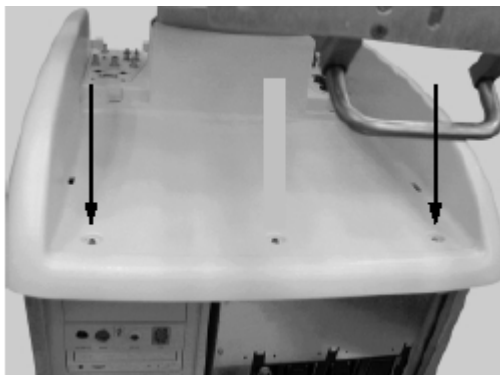

Figure 8-170 Top Cover Screws
- 8.) Remove the *right* and *left* screws located at the front of the lower section top cover, as shown in Figure 8-170.